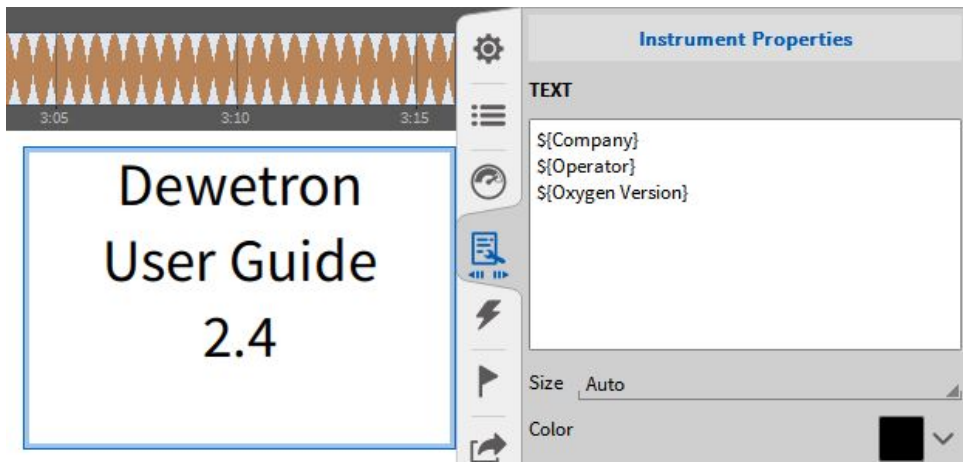

Fig. 5.27: Adding the Header Description in a Text Box
- Create a Text Box and type in the Header Data Name according to the following syntax:  $\${Header Data Name}$  and the Header Data Description will show up in the Text Box (see Fig. 5.27).